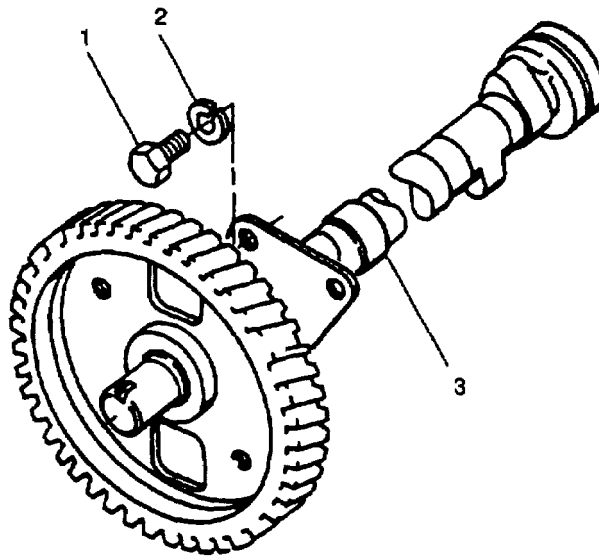

**FIGURE 3-33. Gear End Cover Capscrew Tightening Sequence**
- b. Install new seal (8) as follows:
- (1) Lightly grease sealing lip of new seal (8) with general purpose grease (630AA).
- (2) Position new seal (8) into outside neck of end cover (6), lip side first, and position it squarely on shoulder of seal boss.
- (3) Using suitable driver, drive seal into position in end cover (6).
- d. Install new gasket (7) dry, over two dowels (9), and onto crankcase.
- e. Install oil seal tool into outside face of oil seal (8).
- f. Install end cover (6), taking care to ensure new gasket (7) is not damaged and cover is correctly installed over dowels (9).
- g. Install seven capscrews (4) and washers (5) securing end cover (6) to crankcase. Tighten capscrews to 78 in-lbs (8.8 Nm) in sequence shown in FIGURE 3-33.
- h. Install plug (3).